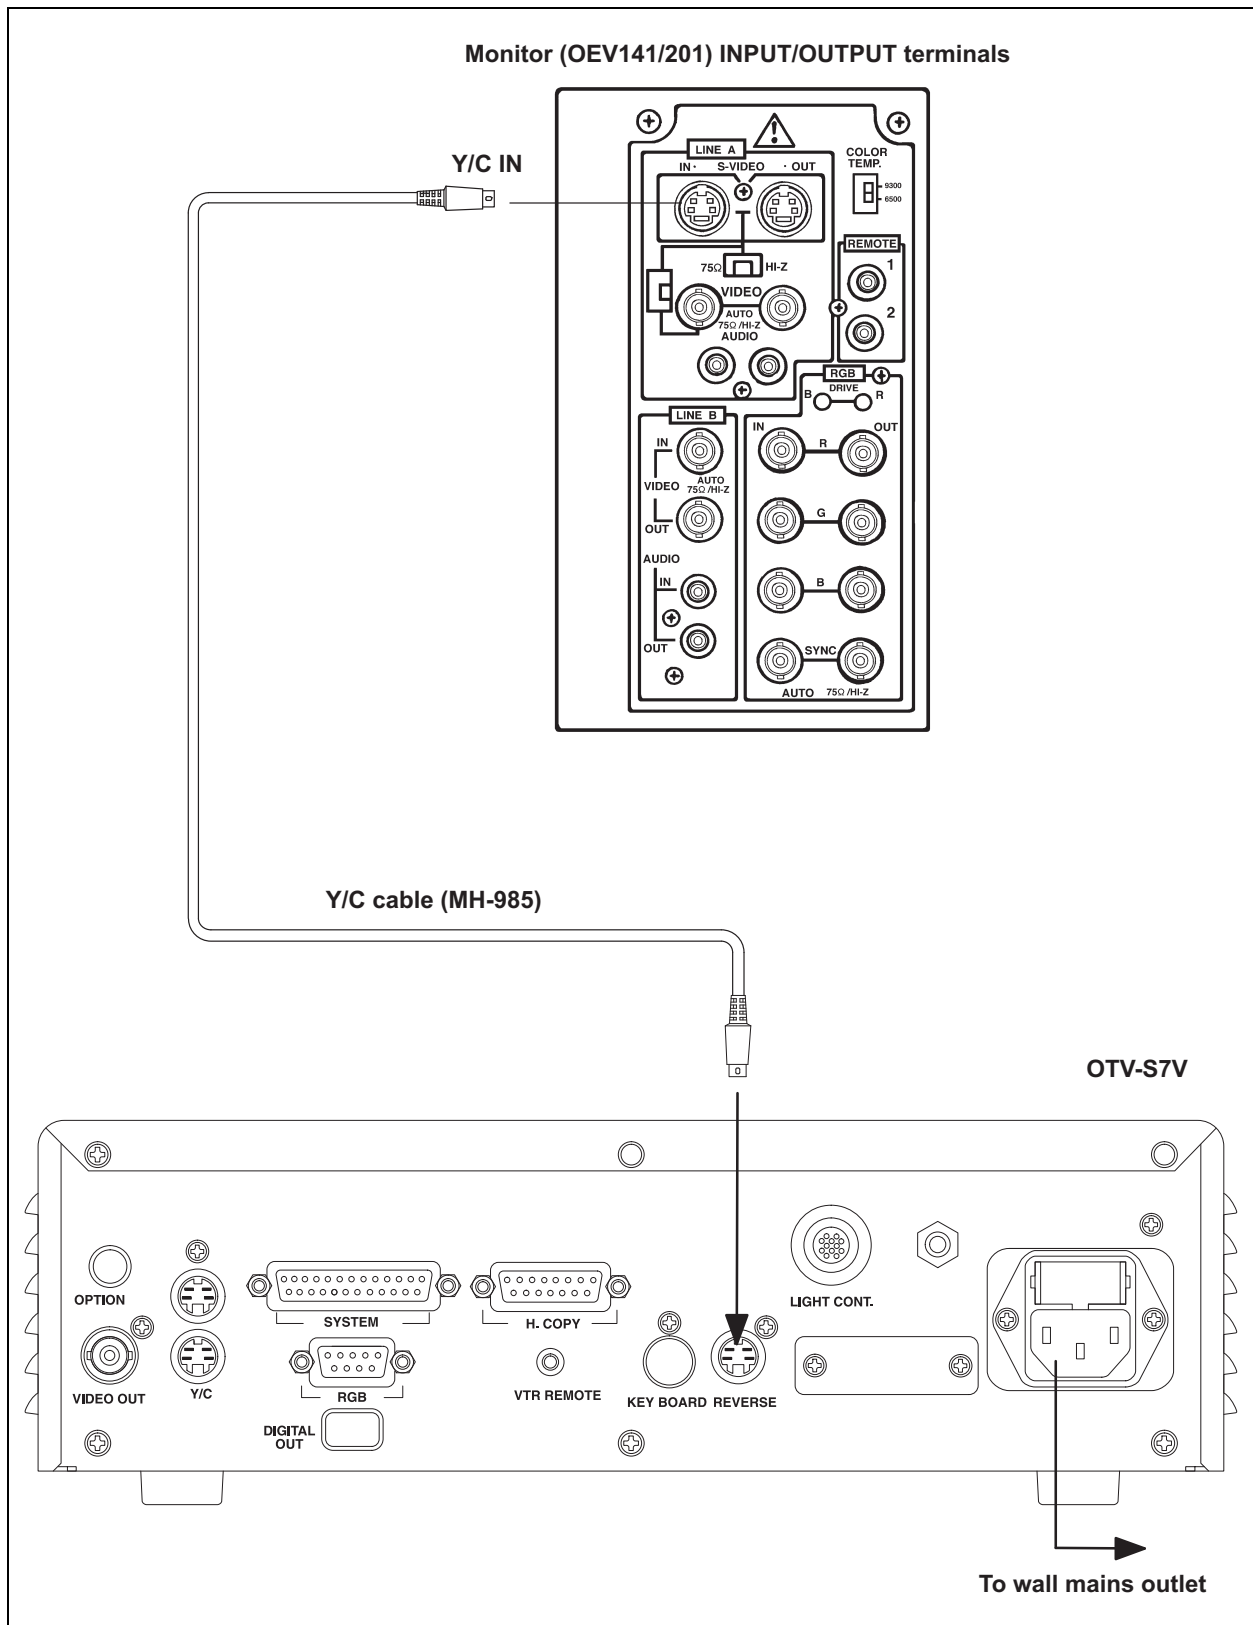

Figure 3.5
3. When using the OEV141/201, connect the Y/C cable to the video monitor as shown in Figure 3.5.